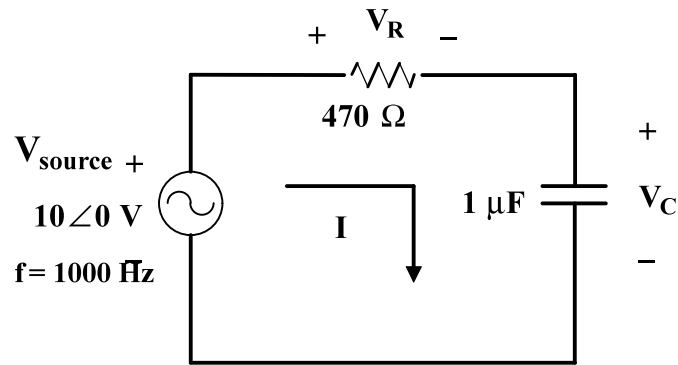

Figure 4.19 AC circuit for Part 3PE.
**Part 3PE:** Series  $RC$  circuit. Consider the circuit shown in Figure 4.19.